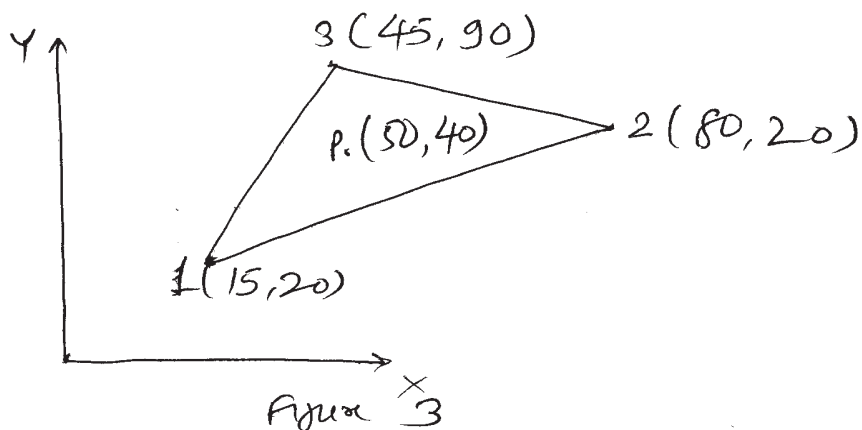

Figure 3
- b) Determine shape function N_1 , N_2 and N_3 at the point P for the triangular element as shown in figure 3. [6]